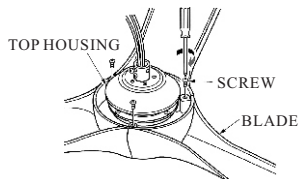

FIG.2
2. Align the overlapped holes of the blades each other, and use the screws to fix them.(See fig.2)